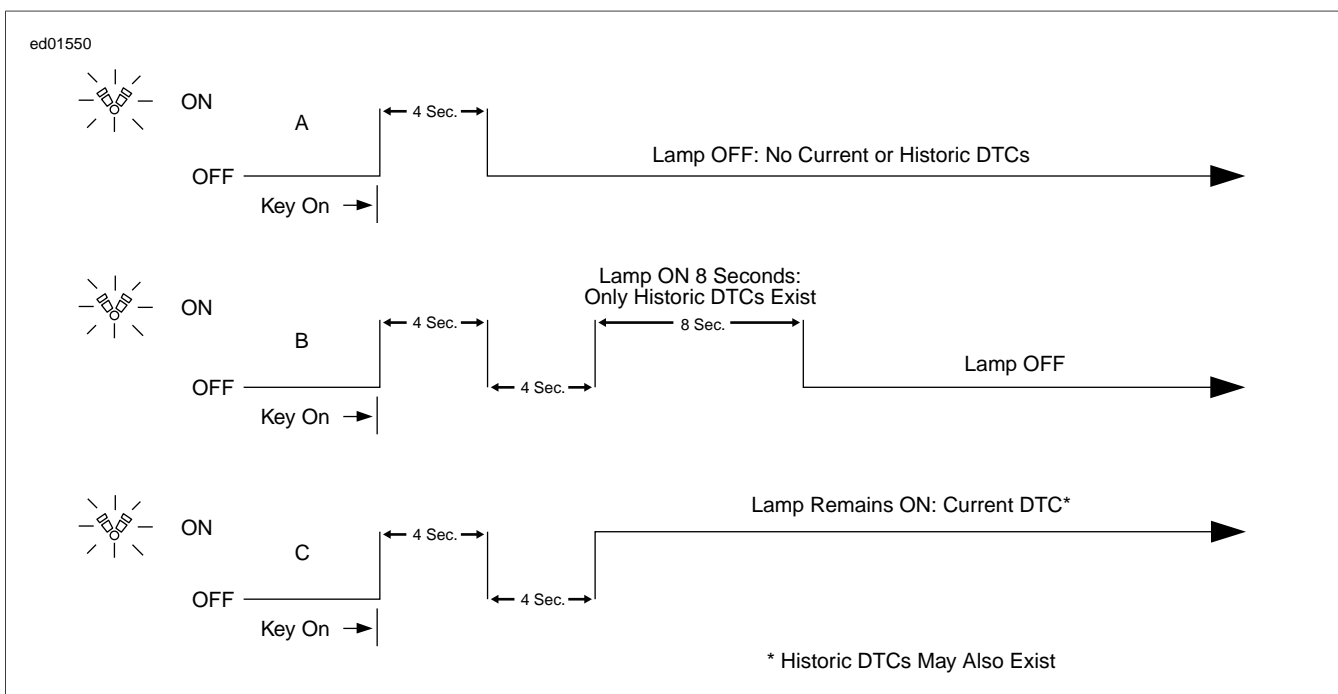

Figure 2-5. Check Engine Lamp Operation
2. See Figure 2-5. After check engine lamp turns off after being illuminated for the first four second period, one of three situations may occur: